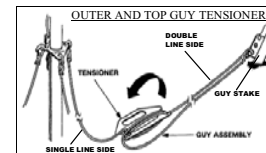
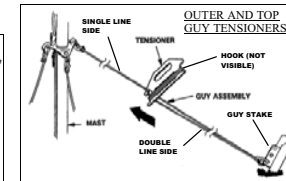

Figure 10
Figure 11
14. Unwrap the four outer guy tensioners and attach the green snap hooks on the single line side to the intermediate (4.0") guy plate (green) and the green snap hooks on the double line side to the lowest hole on the outer guy stakes. Note that the snap hooks should be fastened from underneath the guy plate. See Fig. 6 and Fig. 10.
15. Unwrap the four top guy tensioners and attach the tan snap hooks on the single line side to the top (2.5") guy plate (tan) and the green snap hooks on the double line side to the middle hole on the outer guy stakes. Note that the snap hooks should be fastened from underneath the guy plate. See Fig. 6 and Fig. 10.
26. Remove the slack in one of the outer guy tensioners by winding the trailing end of the guy line around the tensioner. See Fig. 10.
27. Tension the line by sliding the tensioner toward the mast and lock it by placing the guy tensioner hook over the double guy lines. See Fig. 11.
2. Release the eight top and outer guy tensioners to slacken the upper guy lines. (Ref. Fig. 10 and Fig. 11)